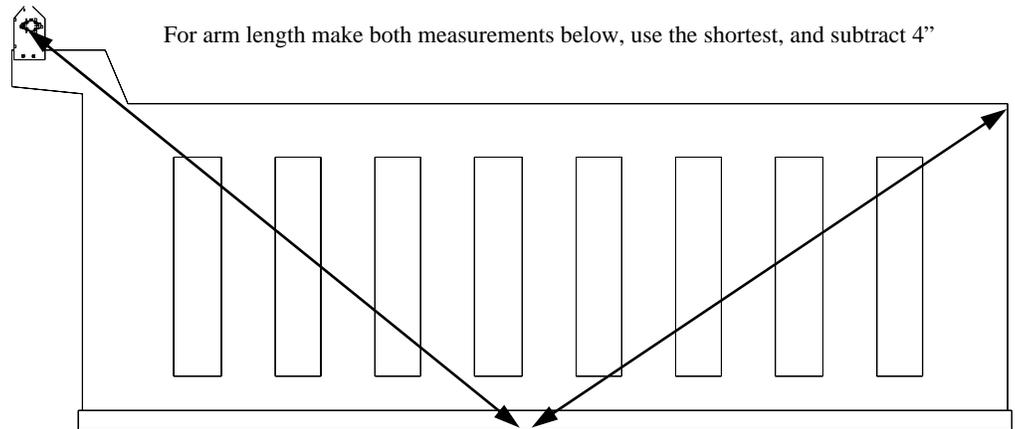

Figure 9
Connecting the arms (P) to the spring shaft. Before connecting the arms you must first determine the length they need to be. To do this, measure from the center of the spring shaft to the rear of the tailgate and subtract 4". This will allow for the legs on the crossover and the arm connector (Note: this method of measurement is used if the pivot point of the system is at or less than seven inches from the center of the dump body. If this measurement is greater than seven inches then measure from the center of the spring shaft to the center of the tarp axle on the roller assembly and subtract 4". This will cause the system to fall just short of the rear of the tailgate), see figure 9. When the proper length is achieved, cut the arms and scrap the remaining material.